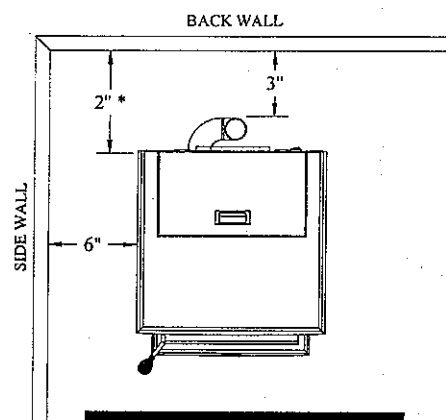

FIGURE 1
The BIO-45 MF has been tested and listed for installation in residential and mobile home.(refer figure 1 & 2)
1. Position stove, adhering to clearances shown in Figures 1 & 2.
5. Position the stove, adhering to the clearances in Figures 1 & 2.
1. Position the stove, adhering to the clearances in Figures 1 & 2. Mark the center of the hole where the pipe is to pierce the masonry chimney.